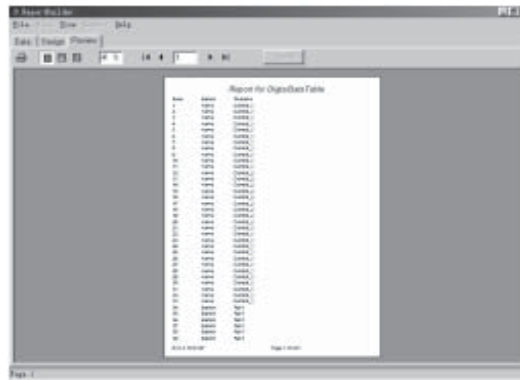

Fig. 8-15 Design the Body of the Report
3.3 Design the Body of the Report. For example, as in Fig. 8-15, set the fields such as $i^{\circ}Index_{i\pm}$, $i^{\circ}Station_{i\pm}$, $i^{\circ}FtuName_{i\pm}$ and so on.